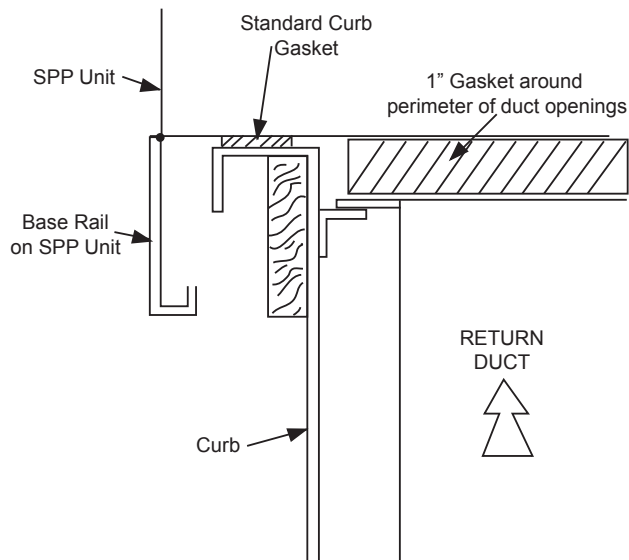

FIG. 3 - Side View Detail
2. Place the standard 1/4" thick gasketing around the outer perimeter of the roof curb as shown in Fig. 3.